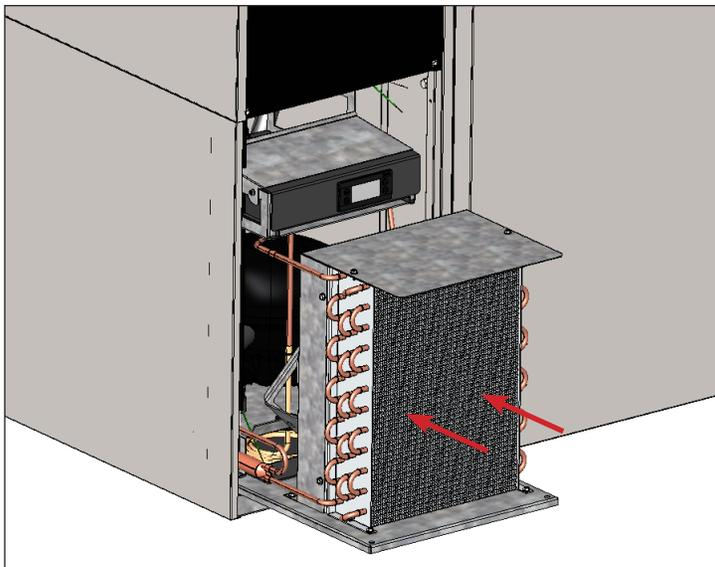

Fig. 6. Carefully slide the condensing unit back into position and replace the bolts.
9. Reinstall the coil brackets (if applicable). Then carefully slide the compressor assembly back into position and bolt it in place. See fig. 6.